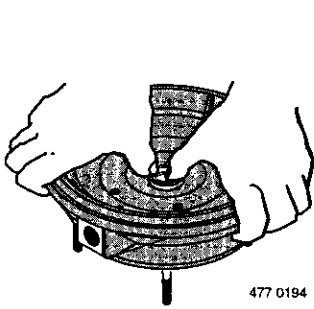
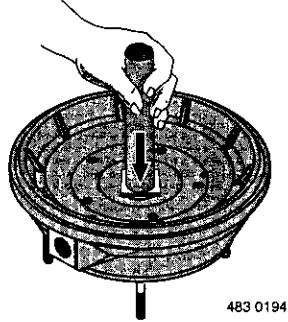

Figure 9A
Figure 9B
- C. With finger pressure press seat firmly and squarely into cavity. See Figure 9A. Polished face of seat faces inside of pump. If seat will not locate properly, place cardboard washer over polished face and use piece of 3/4" standard pipe for pressing purposes. See Figure 9B.